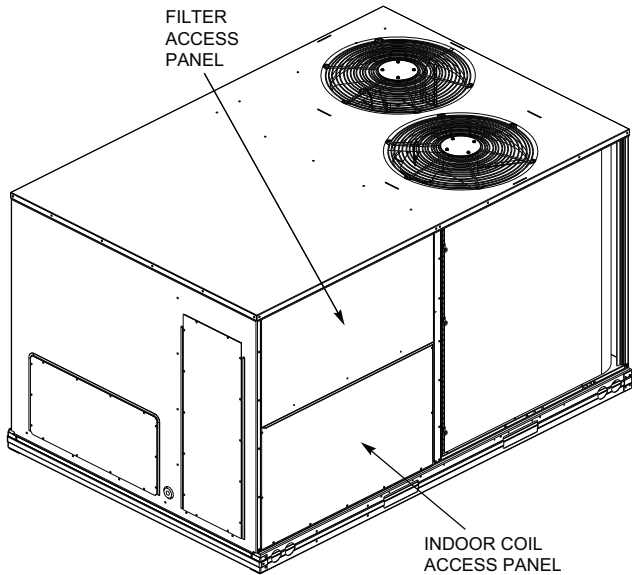

Fig. 8 - Access Panel Locations
2. To gain access to the hood, remove the filter access panel. (See Fig. 8.)